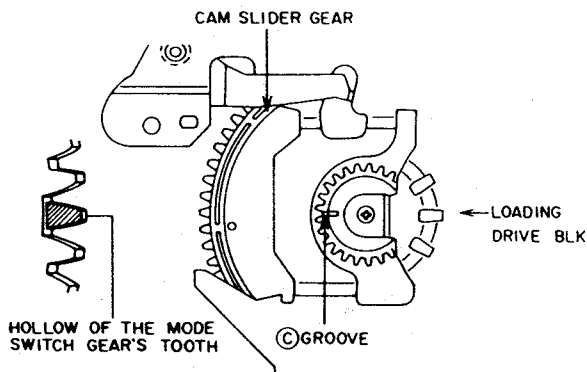

Fig. 3-17
2) Attach the MODE SELECT SWITCH to the LOADING DRIVE BLK. At this time, align the hollow of the gear's tooth (reverse side of the © mark) with the © groove of the CAM SLIDER GEAR as shown in Fig. 3-17.